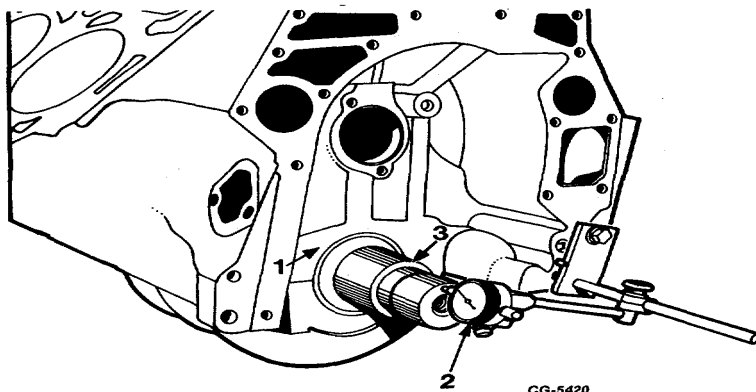

Fig. 127. Checking Crankshaft End Play
7. The third crankshaft bearing controls the crankshaft thrust and provides initial location of the crankshaft in relation to the crankcase. Use dial indicator to check end play, Figure 127.